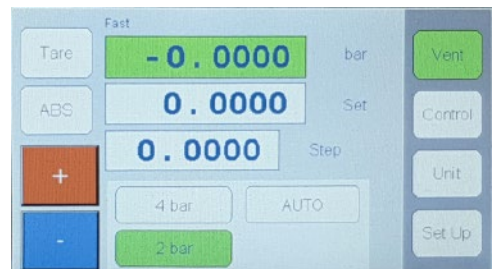

Fig. 11.5
- Switch on the device. The **main menu** appears (⇒ fig. 11.5):